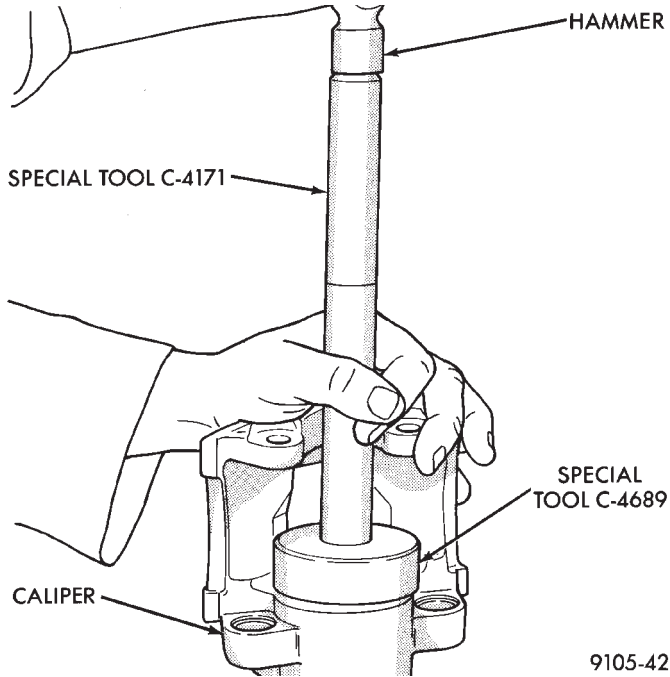

**Fig. 165 Installing Dust Boot In Caliper Counterbore**
(6) Position dust boot into the counterbore of the caliper assembly piston bore.
(7) Using a hammer and Installer Piston Caliper Boot, Special Tool C-4689 and Handle, Special Tool C-4171, drive boot into counterbore of the caliper (Fig. 165).